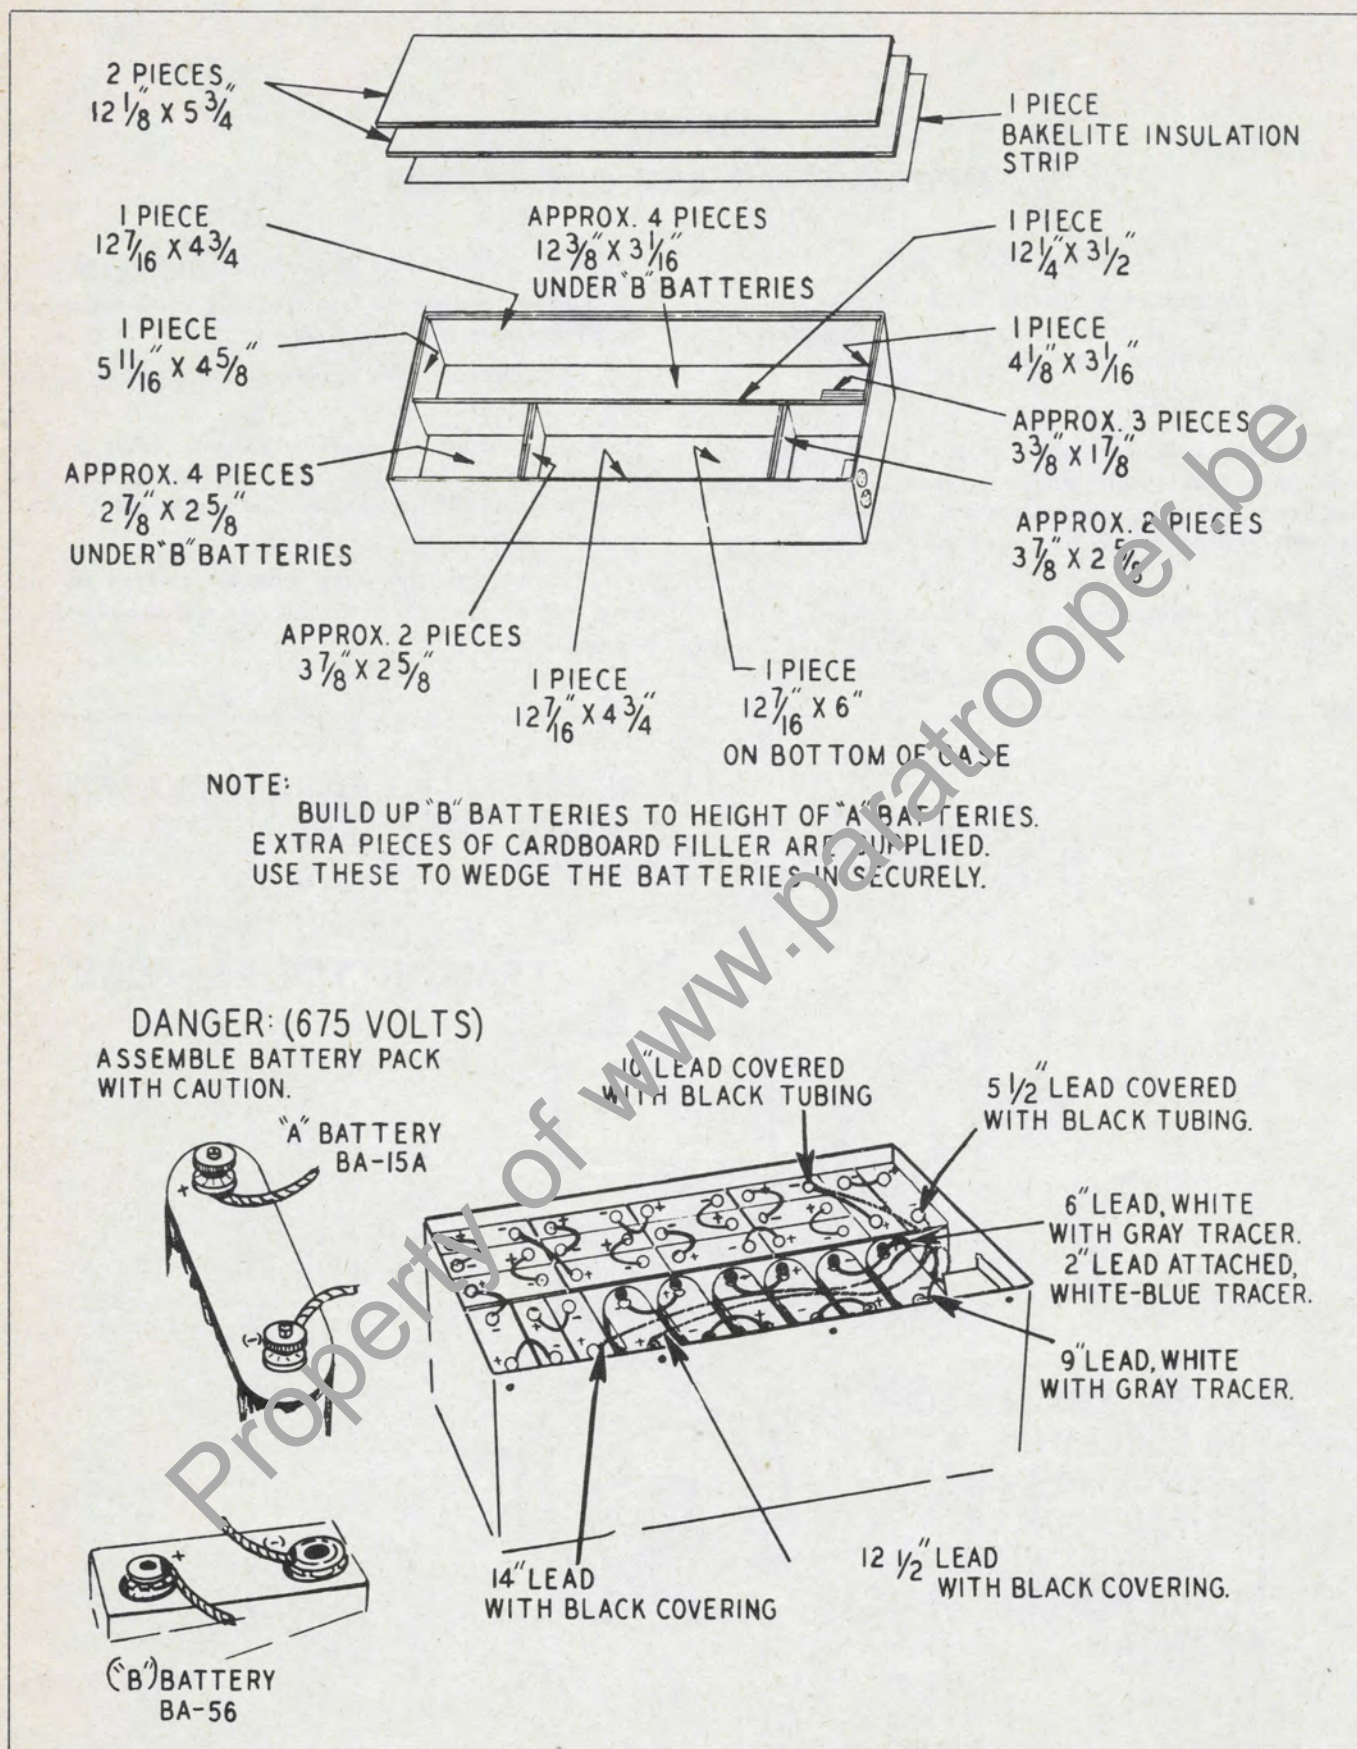

Figure 2-2. Installation of Batteries in Battery Case CY-83/CRN-4
e. INSTALLATION OF BATTERIES.—If it is necessary to install batteries in the battery case, refer to figure 2-2 for their proper location. Jumpers are provided in the battery box, and spare jumpers are in the maintenance